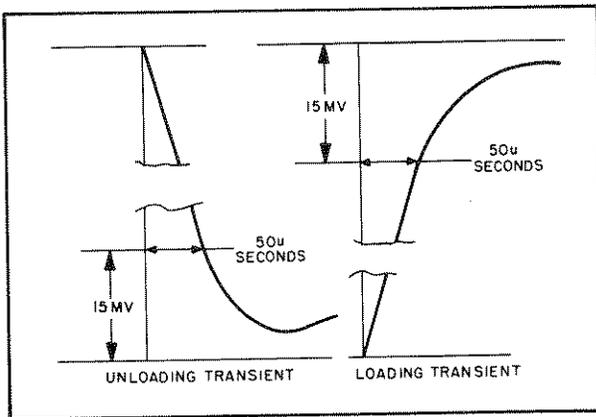

Figure 5-10. Transient Recovery Time, Waveforms
- k. Starting from the major graticule division representative of time zero, count to the right $50 \mu\text{sec}$ and vertically 10mV . Recovery should be within these tolerances as illustrated in Figure 5-10